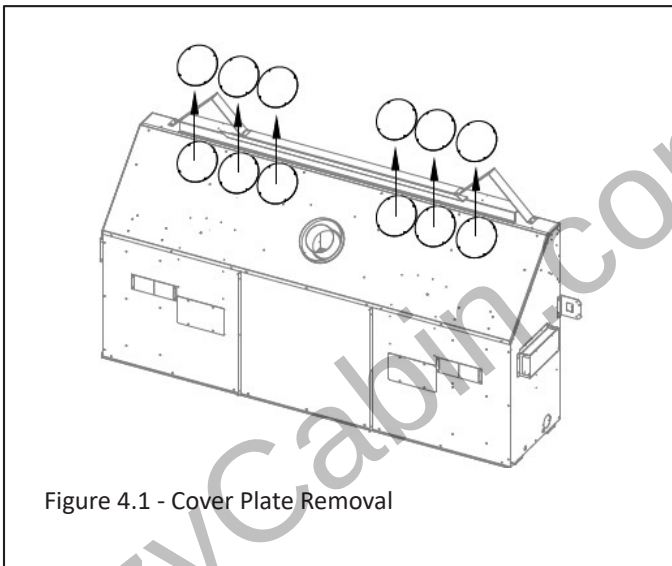

Figure 4.1 - Cover Plate Removal
1. Remove the (24) sheet metal screws that secure the (6) cover plates at the top of the fireplace shown in Figure 4.1. Discard these cover plates. Save the sheet metal screws for the next step.